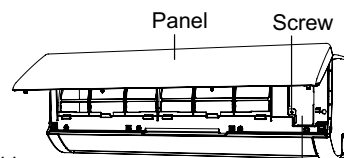

Fig.11
- (1) Open the panel, remove the screw on the wiring cover and then take down the cover. (As show in Fig.11)